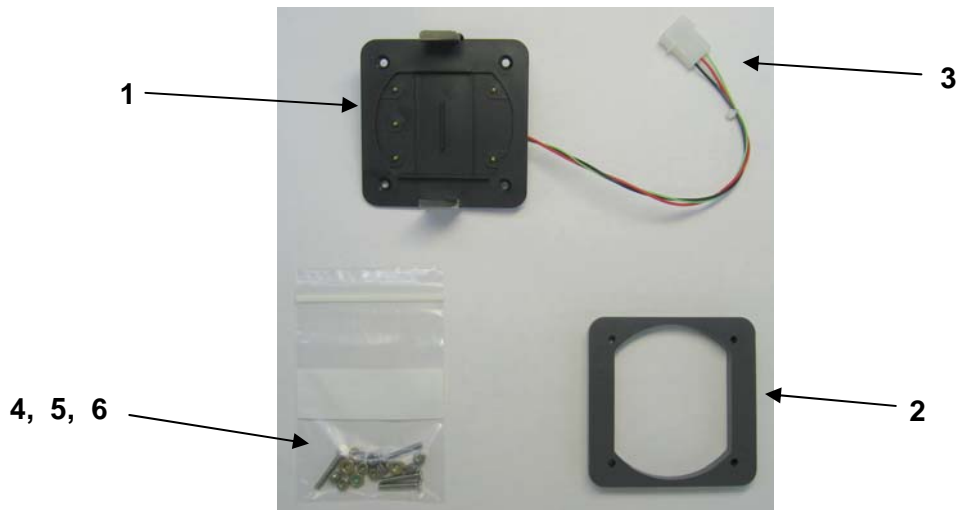
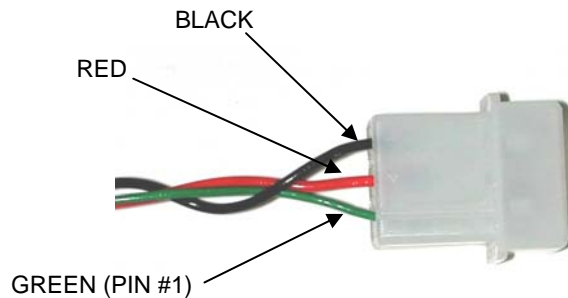

FIGURE 1
FIGURE 2
1. Mount battery pack base (Item 1, Figure 1) using the 4 (each), 6-32 x 7/8" L Phillips head screws provided (Item 4, Figure 1).
**NOTE:** If mounting the battery pack base to a location other than an instrument hole, the spacer (Item 2, Figure 1) will be necessary. Using the spacer as a drill guide for the proper hole location, drill four (4) 5/32" diameter holes. Use the spacer as the reference for wires to feed through and drill a 3/16" diameter hole in the approximate center of the spacer.
2. Feed battery pack base harness leads (Item 3, Figure 1). If required, disassemble the connector (Item 7, Figure 1) attached (as supplied) to feed wires through the 3/16" diameter center hole. Re-attach the connector. (Refer to Figure 2.)